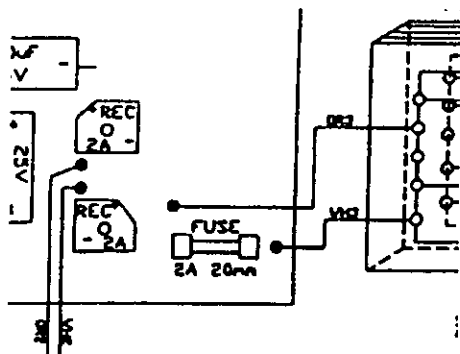

Figure 5.4
2) 5V supply - The 5V supply fuse is mounted on the left-hand printed circuit board of the power unit. See figure 5.4.